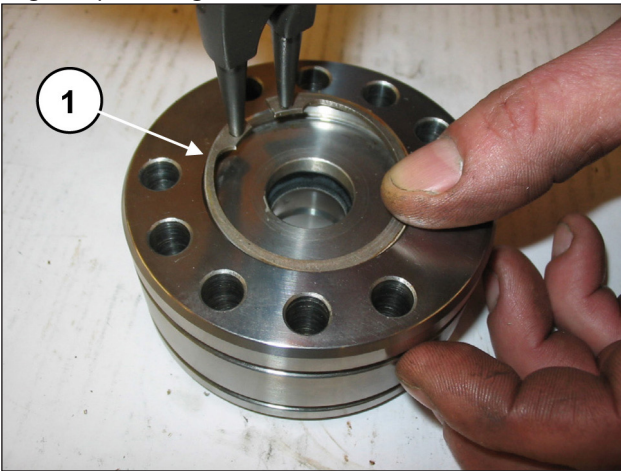
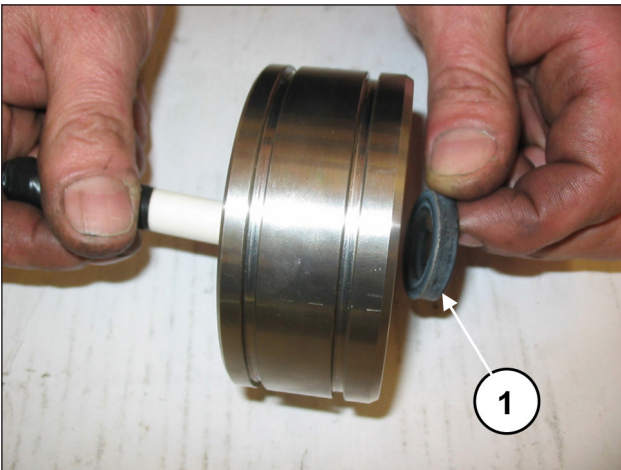

Fig. 112
Fig. 113
Remove the Seeger ring and the seal ring (pos. ①, Fig. 112) and with a special plastic pin, remove the LP (low pressure) ring seal (pos. ①, Fig. 113).